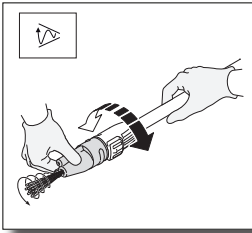

Fig. 18
- Turbo Setting: (Fig. 18) The turbo nozzle has a pulsating, rotating flow of high pressure water spray. Use on hard, uneven surfaces like concrete and patio bricks. Place the nozzle at a forty five degree angle and about a foot away from the surface. Adjust as needed for the best results.